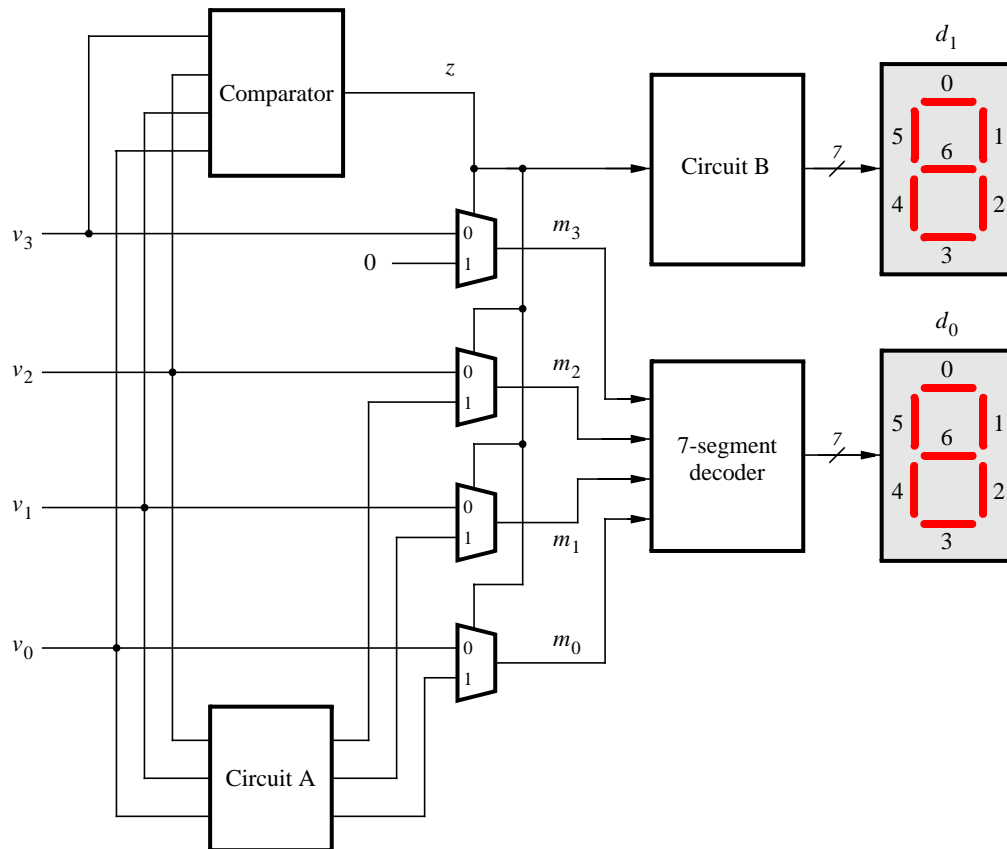

Figure 1. Partial design of the binary-to-decimal conversion circuit.
You are to design a circuit that converts a four-bit binary number $V = v_3v_2v_1v_0$ into its two-digit decimal equivalent $D = d_1d_0$. Table 1 shows the required output values. A partial design of this circuit is given in Figure 1. It includes a comparator that checks when the value of V is greater than 9, and uses the output of this comparator in the control of the 7-segment displays. You are to complete the design of this circuit by creating a Verilog module which includes the comparator, multiplexers, and circuit *A* (do not include circuit *B* or the 7-segment decoder at this point). Your Verilog module should have the four-bit input V , the four-bit output M and the output z . The intent of this exercise is to use simple Verilog **assign** statements to specify the required logic functions using Boolean expressions. Your Verilog code should not include any **if-else**, **case**, or similar statements.
3. Augment your Verilog code to include circuit B in Figure 1 as well as the 7-segment decoder. Change the inputs and outputs of your code to use switches SW_{3-0} on the DE2 board to represent the binary number V , and the displays $HEX1$ and $HEX0$ to show the values of decimal digits d_1 and d_0 . Make sure to include in your project the required pin assignments for the DE2 board.